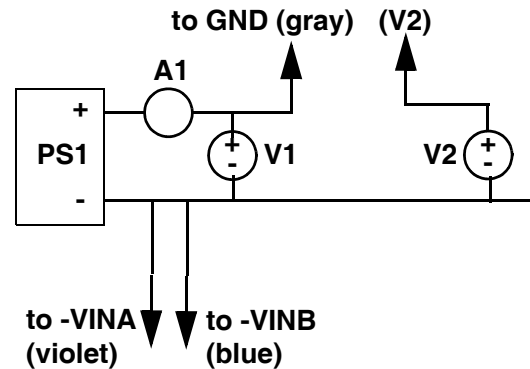

FIGURE 3. HOOK UP
1. Get one (or two) -48V power supplies (~0.25A current needed per channel; 0.5A total). A positive supply can also be used as long as the user keeps the polarities correct. The two channels can share one voltage supply, can each have their own supply, or can even have two different voltages (no special power-up sequence is needed). If only one channel is being tested, the other can be left unconnected. The following instructions are the same for both channels. As shown in Fig. 3, A1 is an optional ammeter to measure current; V1 is an Voltmeter to measure power supply voltage, and V2 is a voltmeter to look at other signals. Note that the voltmeters are referenced to the negative supply rail.